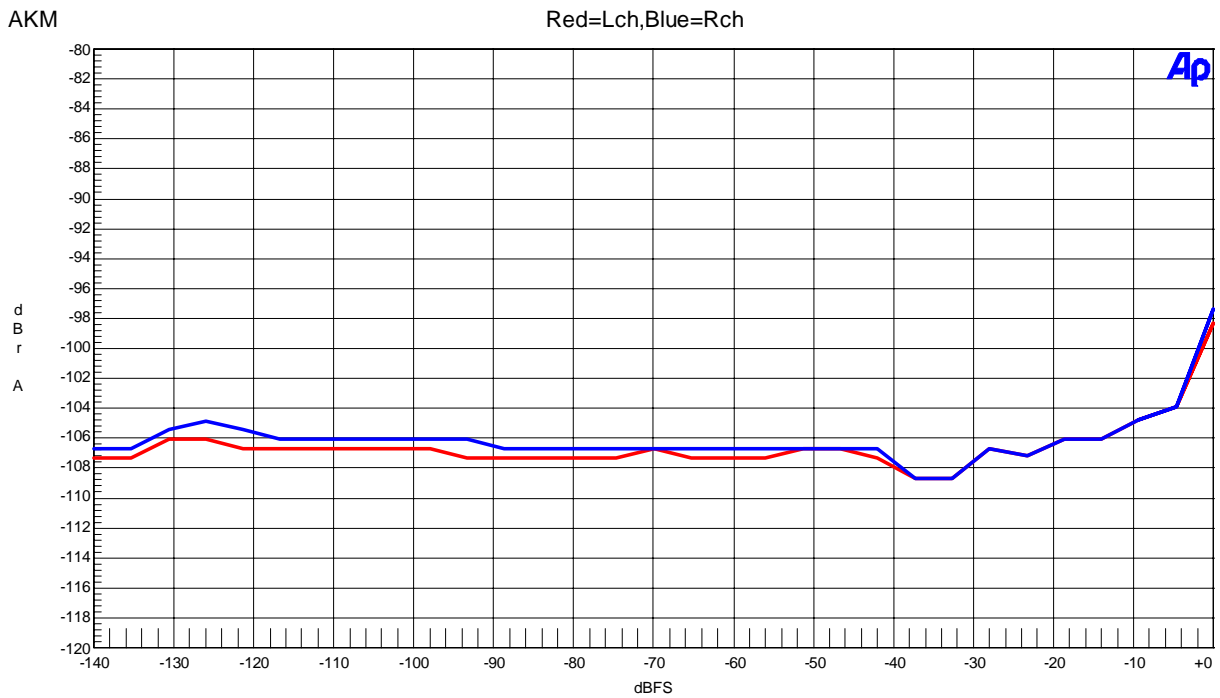

Figure 38. THD+N vs Input Level (Input Frequency=1kHz)
- Figure 38. Linearity (Input Frequency =1kHz)